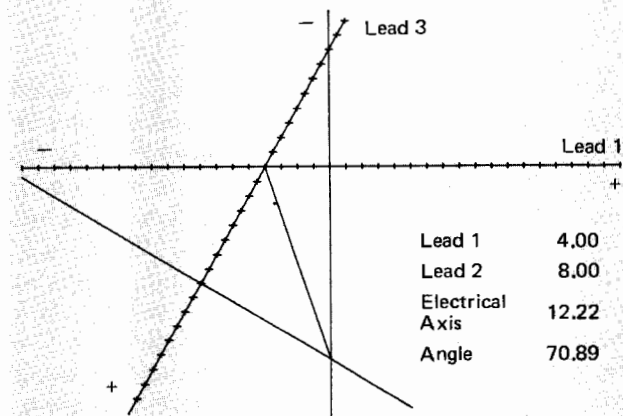

FIGURE 2
This program (published as HP part number 09810-75258) is designed to determine the "classical" electrical axis of the heart, providing the magnitude of this vector as well as the direction. Vectors are used to represent the electrical potential derived from an electrocardiogram of the heart. Problems are solved trigonometrically using a Hewlett-Packard 9810A Calculator; but a graphic solution is also displayed using the HP 9862A Calculator Plotter with a piece of graph paper measuring 10" x 15" as it might be preferred to visualize an answer obtained in a traditional manner (5). The potentials are picked up using the three standard bipolar limb leads. Lead I, II and III are defined as the difference in potential between (1) the left arm (+) and the right arm (-); (2) the left leg (+) and the right arm (-); (3) the left leg (+) and the left arm (-), respectively. By convention, a vector oriented horizontally and directed to the subject's left side is designated as having an angle of 0 degrees; downward deviations are positive and upward deviations are negative. See Figure 2.